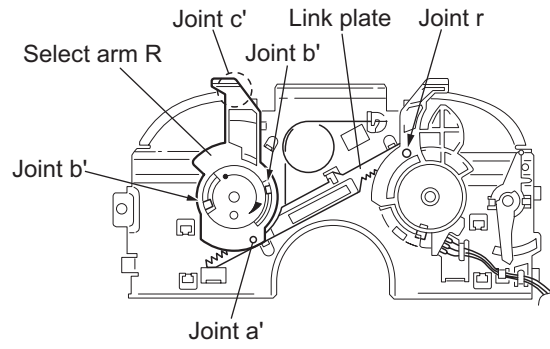

Fig.27
**(See Figs.27 and 28)**
- (1) Bring up the select arm R to release from the link plate (joint a') and turn as shown in the figure to release the two joints b' and joint c'.
- (2) Move the link plate in the direction of the arrow to release the joint d'. Remove the link plate spring at the same time.